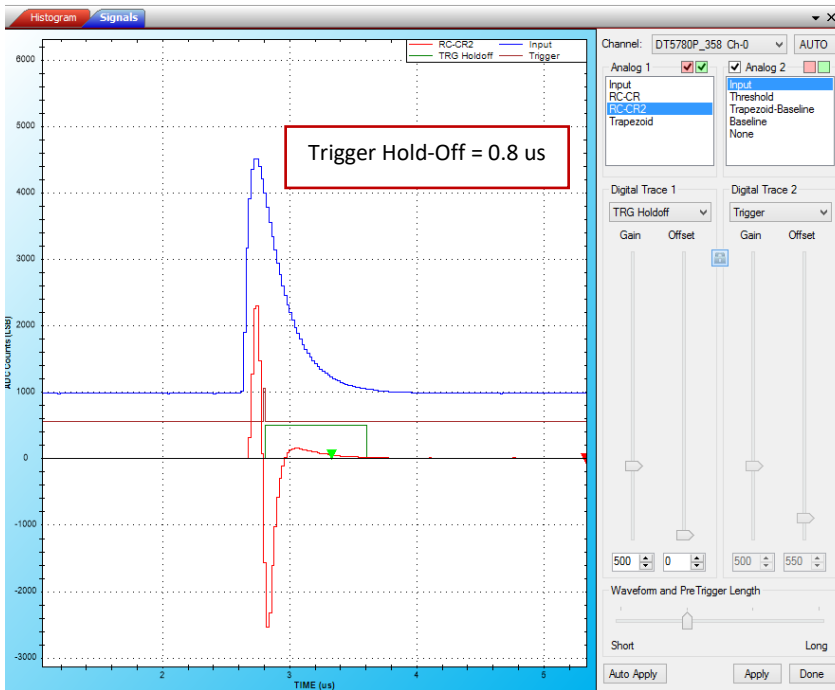

Fig. 3.26: RC-CR2 signal with an overshoot. Set the Trigger Hold-Off to cover the overshoot and avoid re-triggering
- In case the RC-CR2 shows an overshoot (see Fig. 3.26), set the “Trigger Hold-Off” value as long enough to eventually include the overshoot inside it. The algorithm then inhibits any trigger occurring during the whole “Trigger Hold-Off” duration.